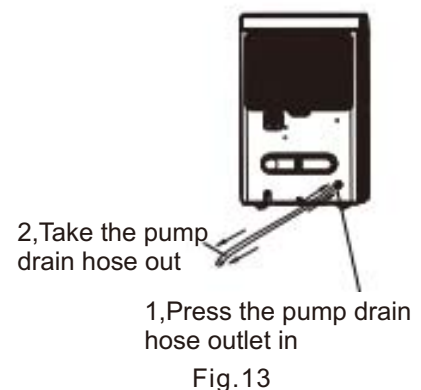

Fig. 13
- Press the pump drain hose outlet in and take the pump drain hose out from it (See Fig.13). Make sure do not let the water in the pump hose drip to the floor.